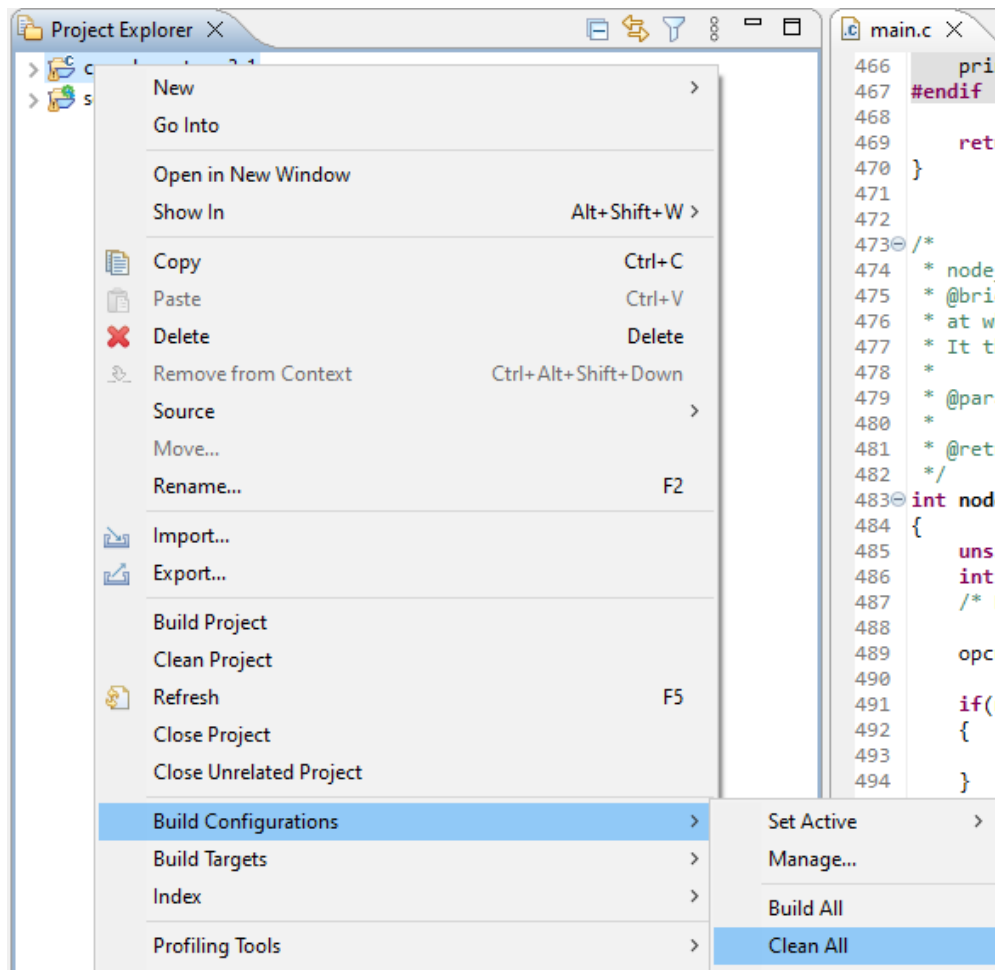

Figure C.48. Clean All
- After selecting the option as shown in Figure C.48, observe the console and wait for the process to reach 100%. After completion, the message shown in Figure C.49 appears on the console.